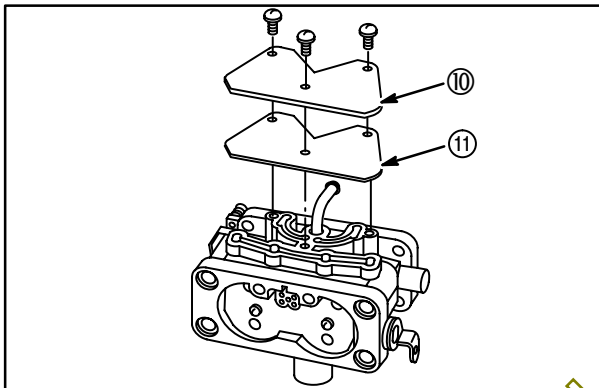

Fig. 119
7. Remove cover plate (10). Discard gasket (11), Fig. 119.